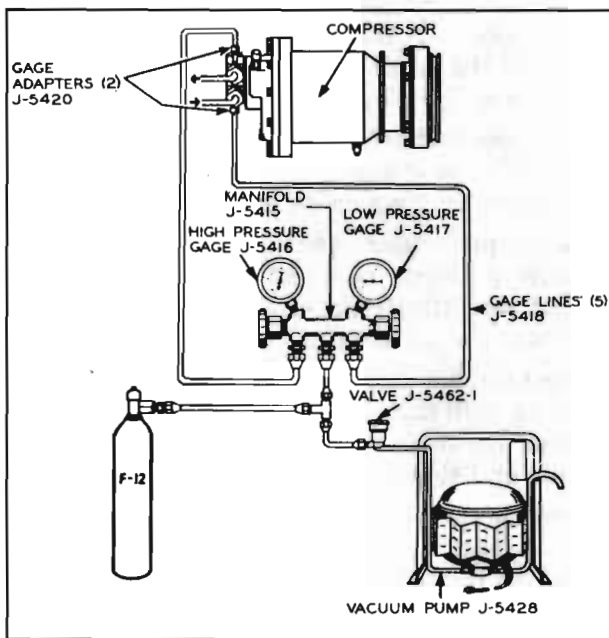

Figure 11-42—Service Charging Hook-up
1. Attach gauge lines and vacuum pump set-up as shown in figure 11-42 and discharge any Freon that may be left in the system.
1. With the vacuum pump, Freon-12 cylinder and gauge set connected to the compressor as shown in Figure 11-42, place the cylinder in a bucket of hot water which does not exceed 125°F.